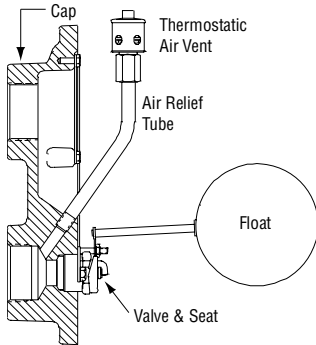

Figure 4.
- F) Inspect all of the moving parts. Remove all worn or damaged parts and replace them. Figures 4, 5, 6 and 7 show all critical and moving parts. Check that each item is in good condition and operates normally. Inspect the lever and guide pin assembly for indications of wear. See that the float is not dented, corroded or "water logged". Look for pinhole leaks in the float.